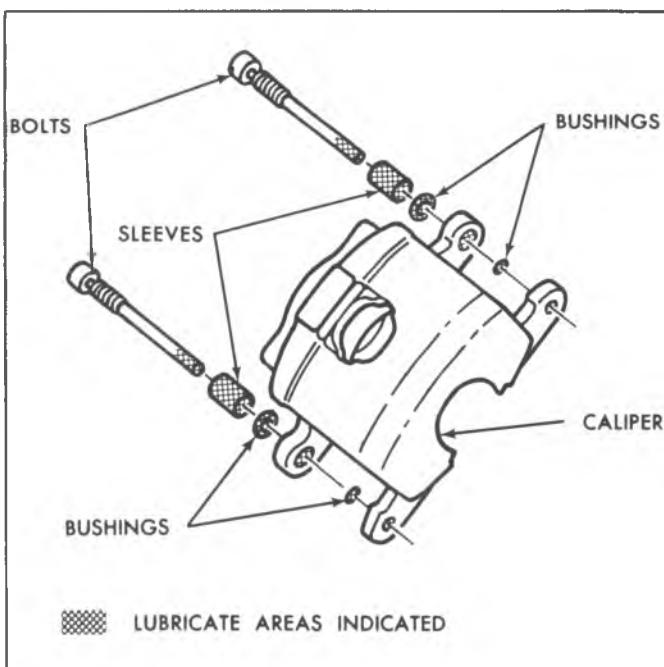

Fig. 56--Lubrication Points
1. Lubricate new sleeves, new rubber bushings, the bushing grooves and the end of the mounting bolts using Delco Silicone Lube #5459912 or equivalent (fig. 56).